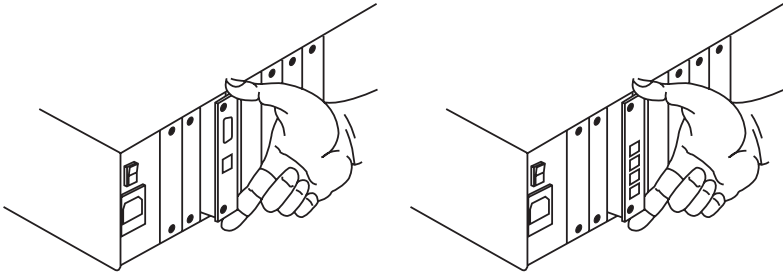

Figure 2-2. Inserting a Card in the Switch (Management Card shown at left, Serial Control Card shown at right).
4. If you look into the open slot on the Switch, you will see "guide tracks" that the top and bottom of the Card should slide along when you install it. Slide the new Management Card or Serial Control Card gently into the slot along these tracks, until the Card's connector or connectors line up flush with the back of the unit, as shown in Figure 2-2.